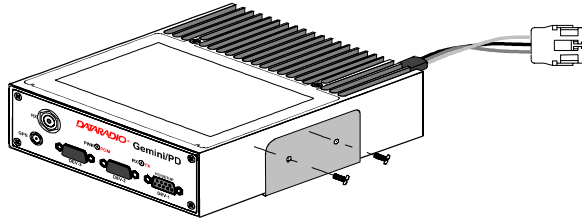

Figure 2 - Bracket installation
5. Install the bracket without distorting (see Figure 2).